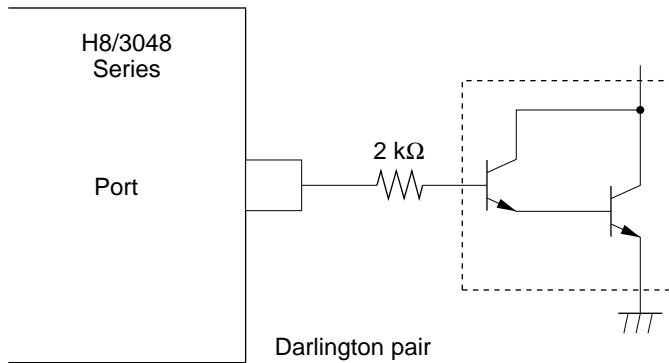

Figure 21-4 Darlington Pair Drive Circuit (Example)
2. When driving a darlington pair or LED, always insert a current-limiting resistor in the output line, as shown in figures 21-4 and 21-5.